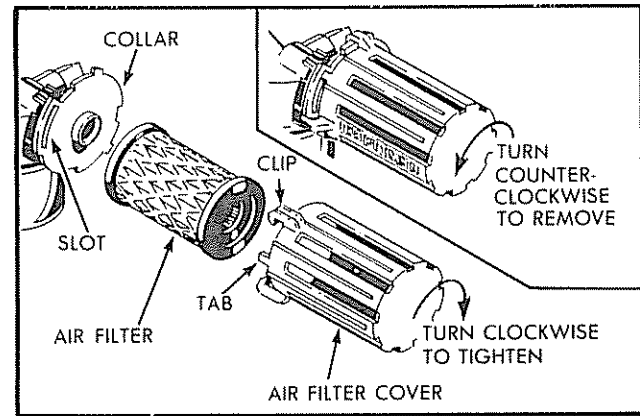

FIG. 28
1. Remove the air filter cover by turning counter-clockwise to the stop, and pull away from collar (See Fig. 28).
2. Remove filter from inside of cover (See Fig. 28).
6. Push in on cover and turn clockwise to tighten (See Fig. 28).